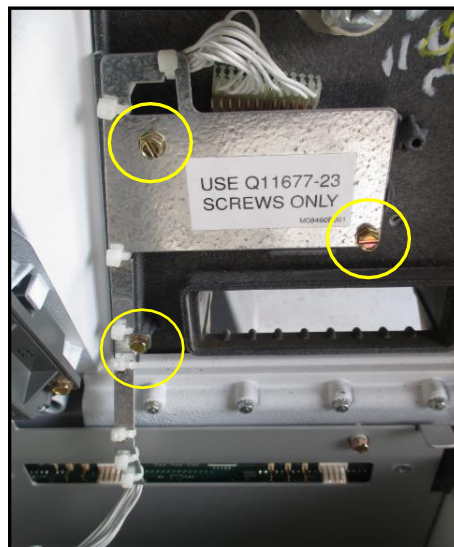

Fig 1.6 – Location of ADA Keypad Plate screws
8. Remove and discard the three ¼" screws that fasten the ADA keypad plate to the dispenser door (if present). (Fig 1.6)